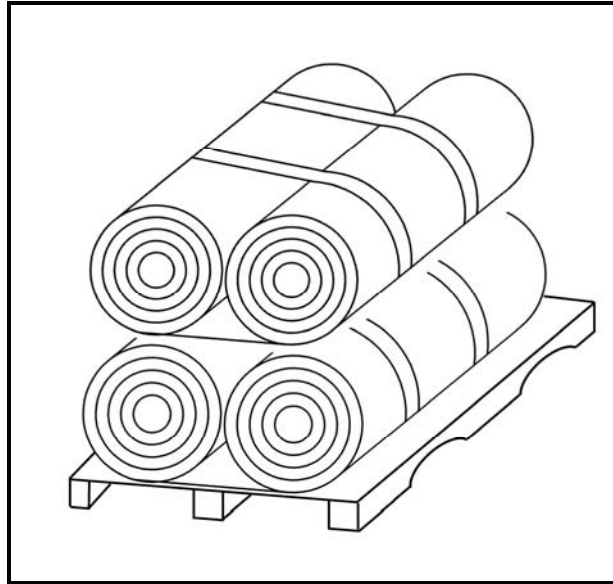

Figure 24. Rolled berm liner on top of tank (IPDS Only).
13. Place the berm liner onto the tank (IPDS Only) (Figure 24).